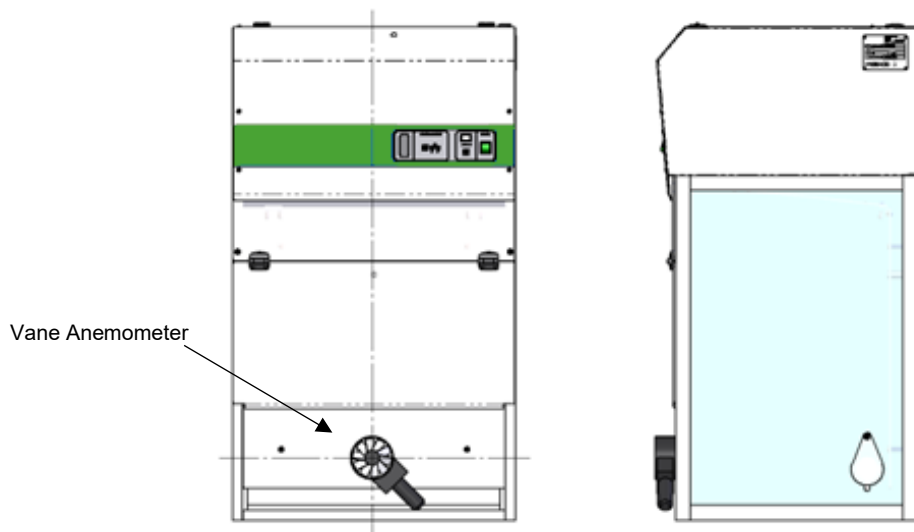

Figure 9
- 2) Place the vane of the anemometer in the centre of the aperture with the head of the anemometer flush with the outside of the cabinet as shown below in **Figure 9**. Use a laboratory stand to support the anemometer.